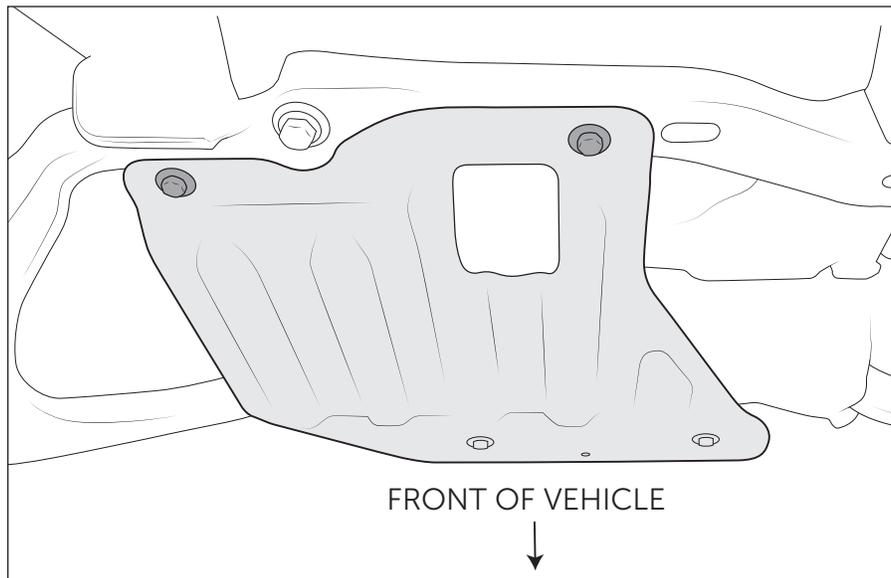

Figure 2
2. Remove and SAVE the 2 M10 Bolts from the oil pan skid (fig. 2)